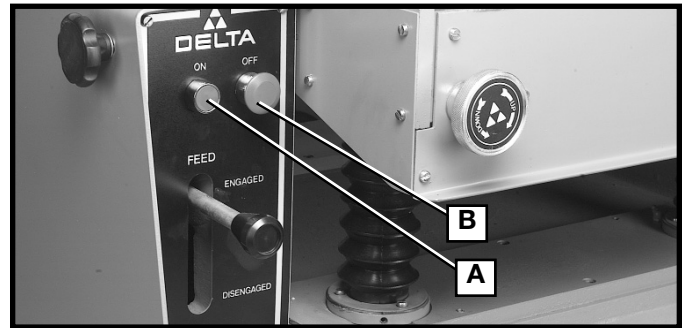

Fig. 8
The machine is started by pressing the green (shrouded) "ON" button (A) and stopped by pressing the red (mushroom type) "OFF" button (B), as shown in Fig. 8.